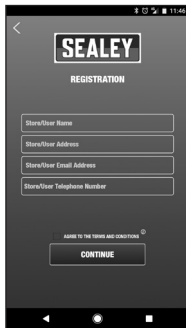

fig.3
3. Fill in all of the required fields, and then check the box for "AGREE TO TERMS AND CONDITIONS". Press "CONTINUE" (fig.3)